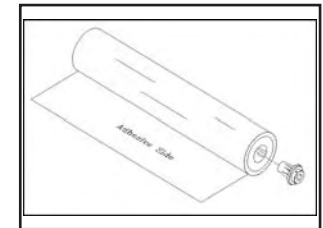

Figure 3
3. Insert one of the core adapters into the right end of the film core. For film with poly-in (adhesive side is inside the web), make sure the adhesive side is facing upward. (Fig.3)